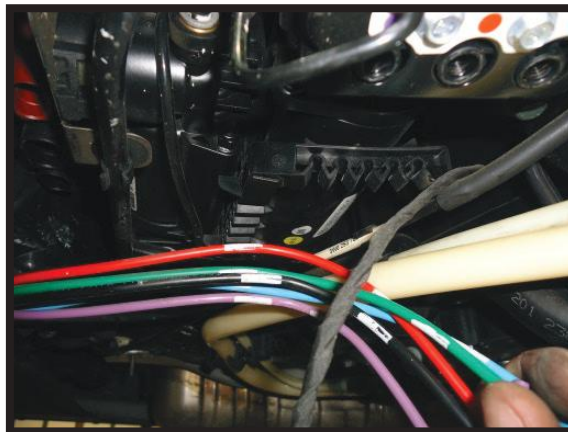

FIGURE 5
7. Remove the air lines from the retaining clips. (FIGURE 5)